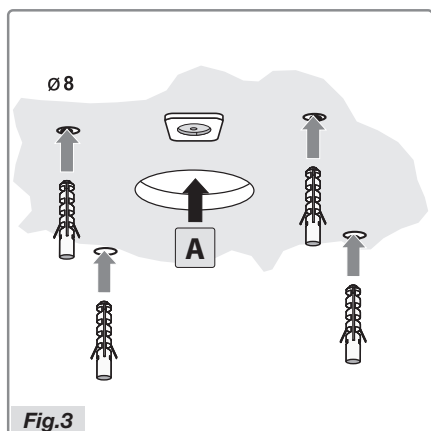

Fig.3
- Prepare the air evacuation hole **A** (Fig.3).